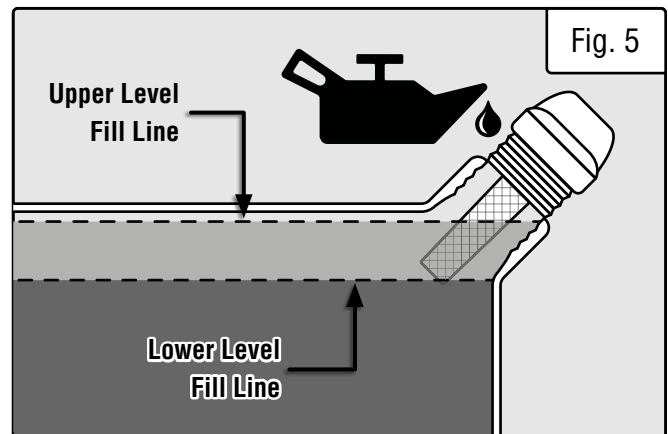

Fig. 5
3. Using an oil funnel or appropriate dispenser, slowly add oil into the oil fill, being careful not to overfill the unit. Fill the crankcase to the upper fill line so you can visually see the oil coming halfway up the oil fill threads (Fig. 5).